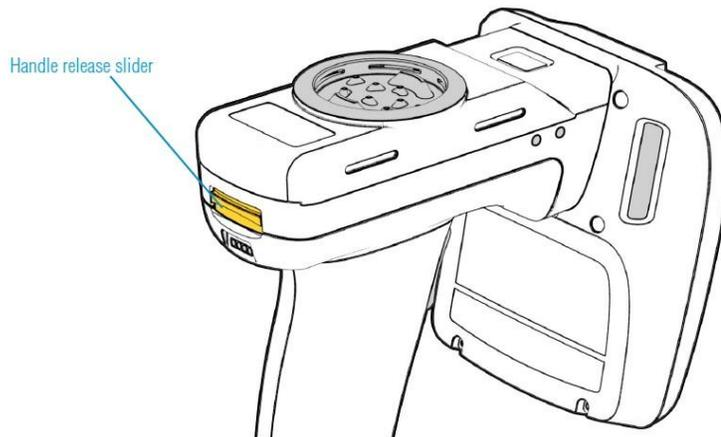
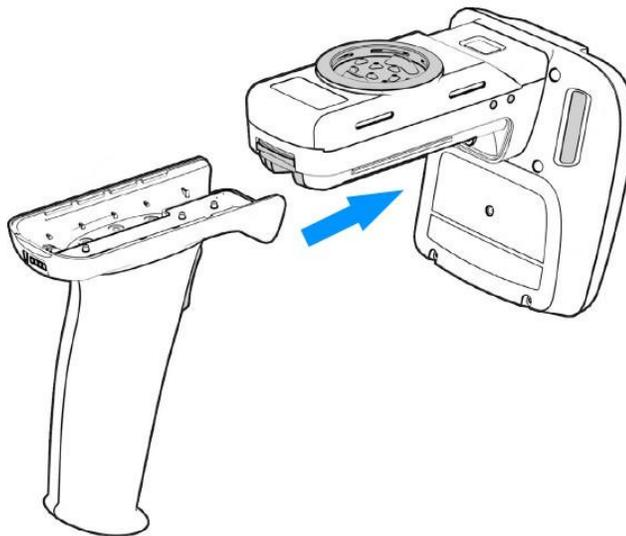

Figure 4 Trigger Unit Handle Release Slider
Figure 5 Slide Trigger Unit Handle Off
1. Remove the grip handle by pushing up on the handle release slider (Figure 4) and pushing the top of the unit forward (Figure 5).